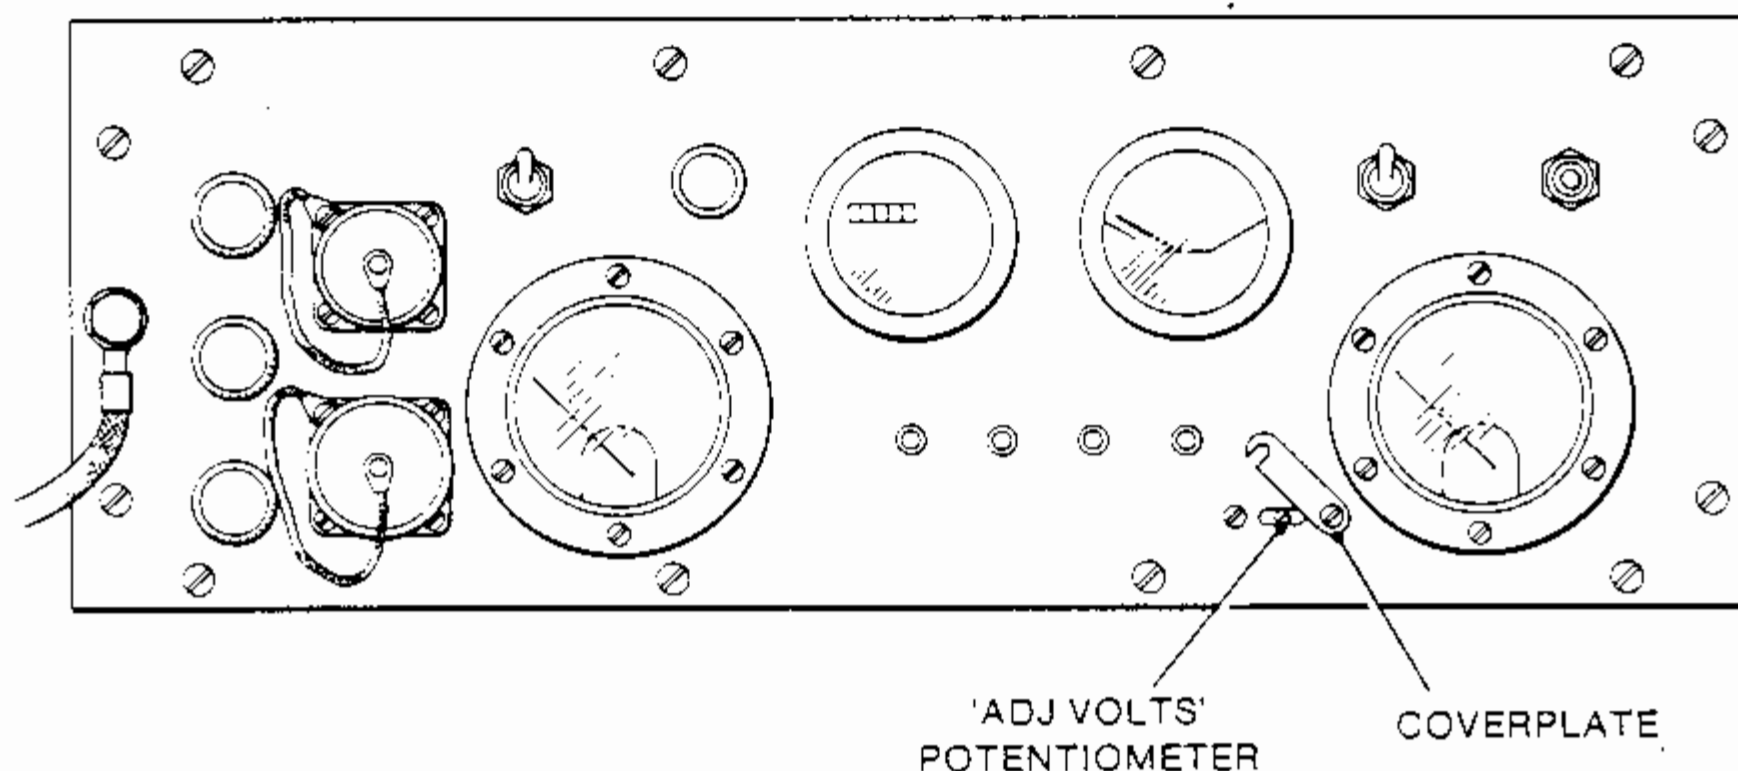

Fig 2 D.C. output voltage adjustment facility
► **Adjusting D.C. output voltage (Fig 2)**